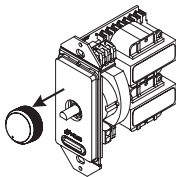

Figure 1
2. Pull the knob off the shaft. See **Figure 1**
5. *Locate the new knob. Align its flat side to the flat side of the shaft, and push the knob onto the shaft. Holding the unit as shown in **Figure 1**, check the alignment of the knob by turning it through all positions.*